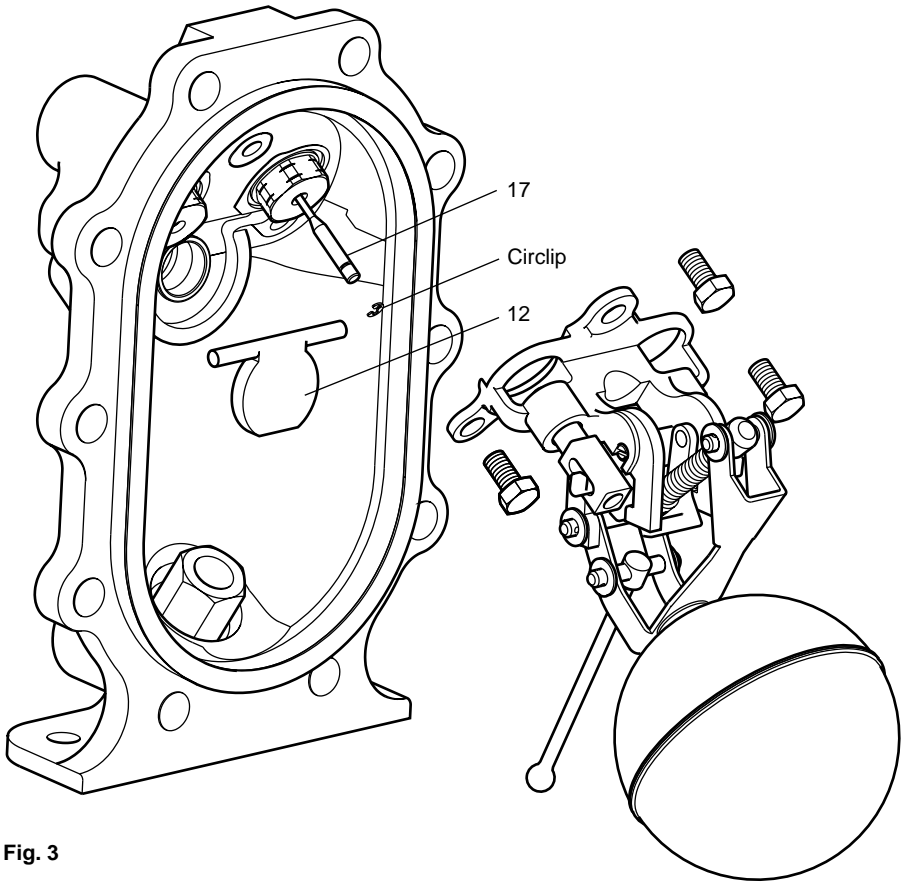

Fig. 3
3. Carefully remove the circlip from the end of the steam inlet valve (item 17).
5. Lift away the pump bracket assembly (See Fig. 3). This will allow access to the inlet swing check valve (item 12).
13. Carefully reconnect the motive steam supply and the exhaust lines to the connections marked (S) and (E), and the condensate inlet and outlet to the connections marked (IN) and (OUT). The APT10 is now ready to recommission.